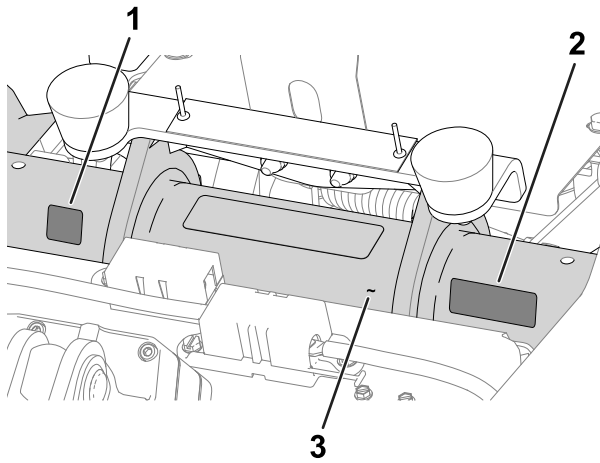

Figure 5
- **Production year decal** and **CE/UKCA decal**: apply the decals on the frame tube below the seat and serial plate; refer to Figure 5.